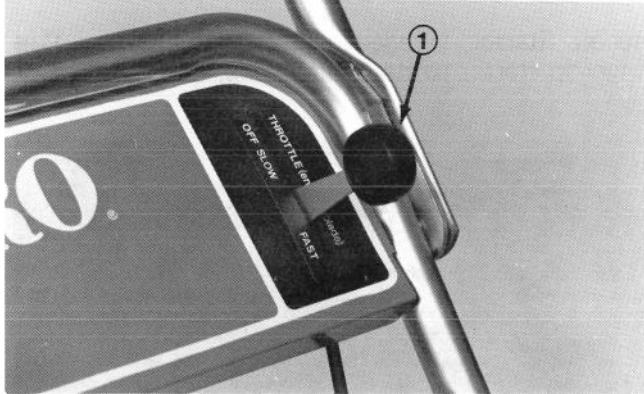

Figure 10
1. Move throttle control forward to FAST position (Fig. 10) and the ground speed control to the N (NEUTRAL) position.